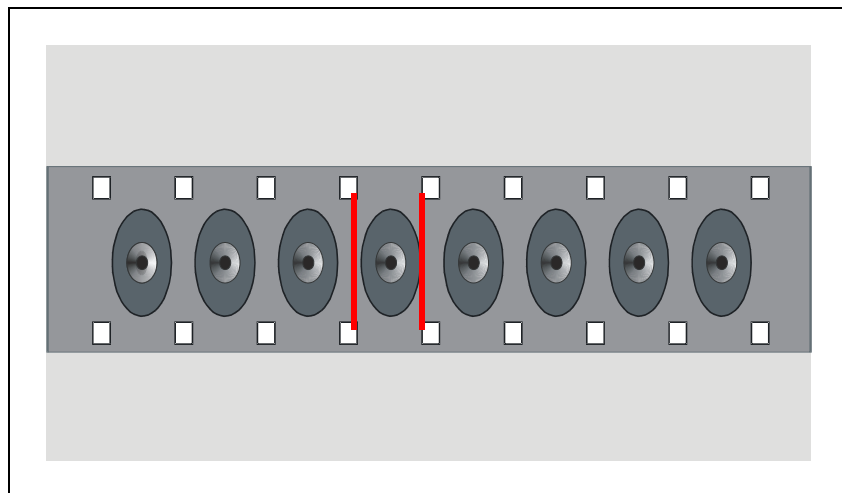
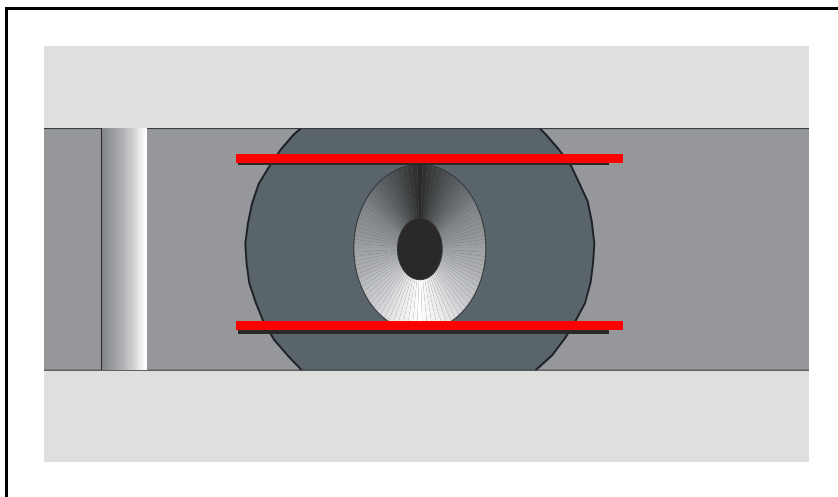

Figure 5-14. HVC view
Figure 5-15. LSC view
Figure 5-14 shows the camera view when a HYDRA Vision Camera (HVC) is used. Figure 5-15 shows the camera view when the LineScan Camera (LSC) is used.
3. Using the joy-stick or trackball, align tool number 4 between the two parallel lines drawn in the graph. For HVC see Figure 5-14 for and for LSC see Figure 5-15.